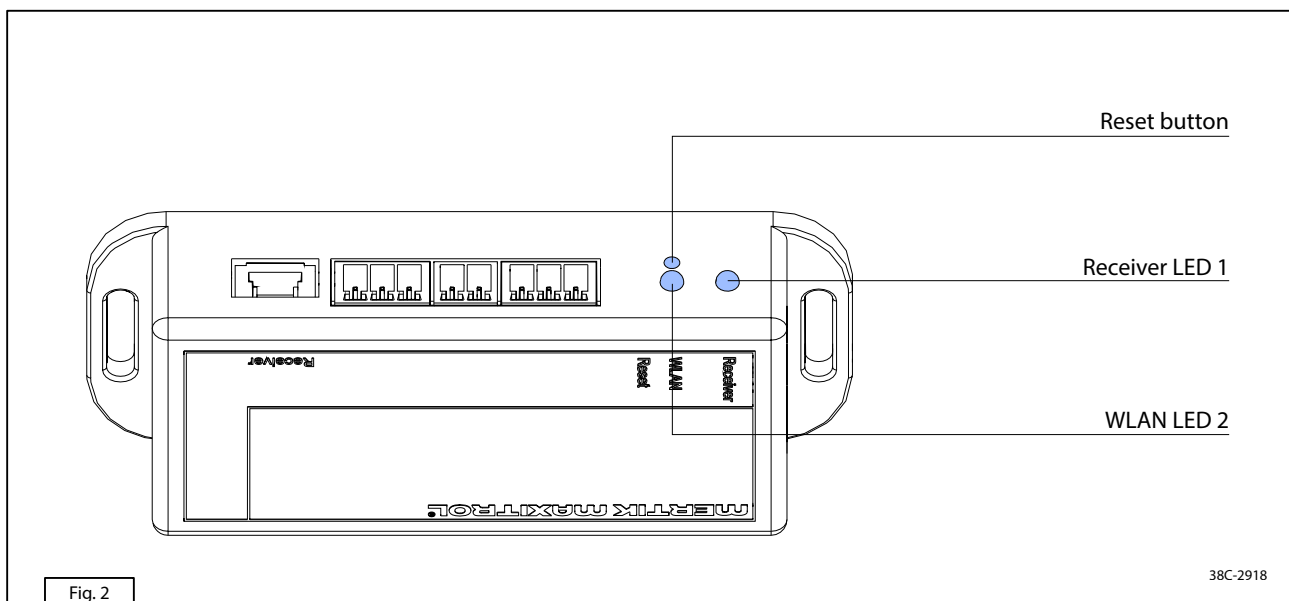

Fig. 2
The Wifi-module has 2 different LED indicators and a reset button (Fig. 2). The different LEDs with their related colors are listed in Table 1-1.
When dismantling the burner surface, proceed as follows (see Fig. 2):
- Adjust the adjustment ring of the left upright burner using spacer 8.5 (F) using the allen key provided in the conversion kit (Step 1).
- Adjust the adjustment ring of the main burner using spacer 10.5 (E) using the allen key provided in the conversion kit (Step 2).
- Adjust the adjustment ring of the right upright burner using spacer 11 (G) using the allen key provided in the conversion kit (Step 3).
- Carry out steps 1 to 6, Section 1.2 (Fig. 2), in reverse order to re-assemble the appliance.